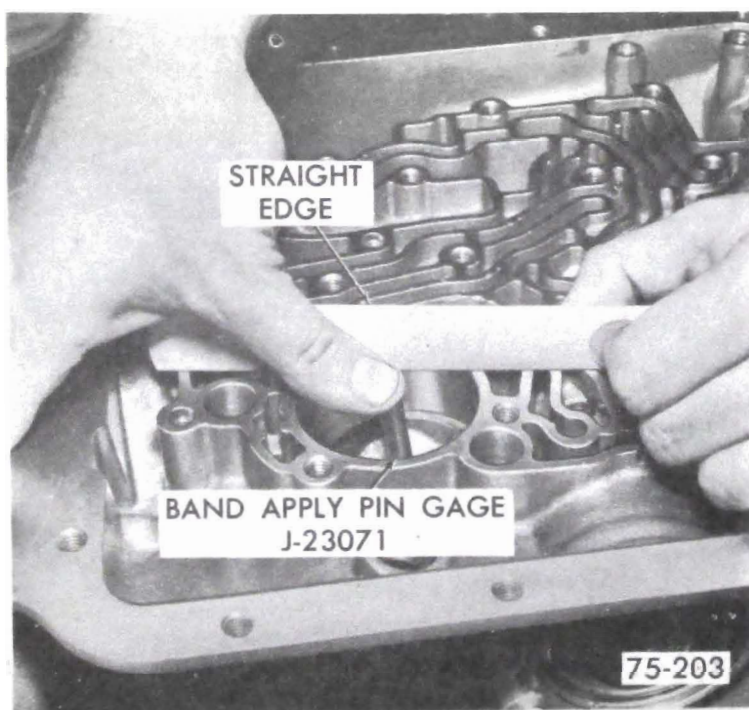

Figure 75-89
a. Using band apply selection pin tool J-23071, and straight edge, apply firm downward pressure on selection pin. See Figure 75-89.